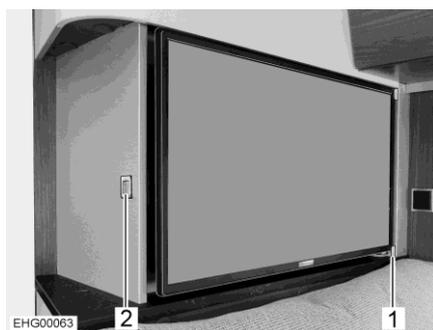

Fig. 67 Flat screen
The flat screen is secured on the side by a guide rail (Fig. 67,1).
- Press the release button (Fig. 67,2).
- Pull flat screen out of the guide rail (Fig. 67,1), into the desired position.
- Push flat screen back until it engages in the guide rail (Fig. 67,1) on the side.